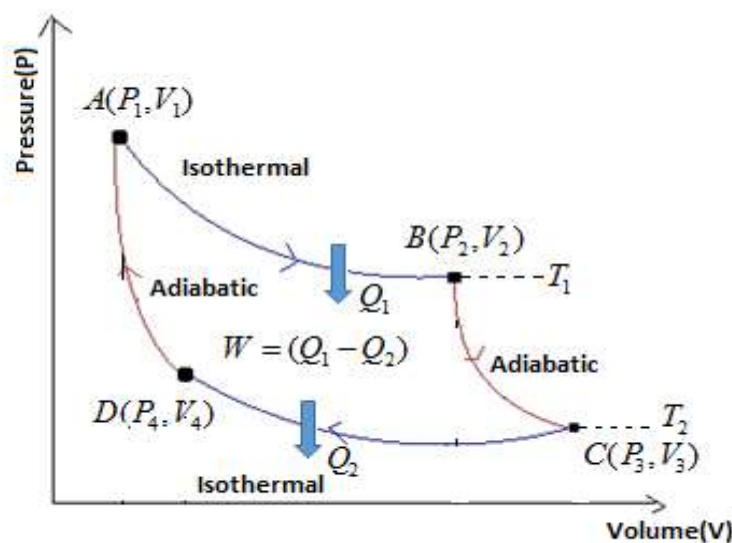

Figure 1
1. Place the machine containing the work material on the source with temperature T_1 , meaning that the temperature of the work material is also T_1 . Initially, the pressure and volume are P_1 and V_1 respectively. If we reduce the pressure, the volume will increase and as a result, the temperature will decrease and the pressure and volume will become P_2 and V_2 respectively, but since the machine has the ability to exchange heat from the source, it will acquire the amount of heat that it lost during expansion to remain at the same temperature as the source T_1 , and accordingly it will Work is done in this process known as the isothermal process. So the curve AB in Fig. 1 shows the isothermal process ($A \rightarrow B$ the gas is expanding isothermally)
Accordingly, work will be performed in this adiabatic process shown in the curve BC in Fig. 1 at the expense of the internal energy ($B \rightarrow C$ the gas is expanding adiabatically)
3. Place the machine containing the work material over the spine with a temperature of T_2 , increase the pressure, the volume will decrease from V_3 to V_4 and as a result, the temperature will increase, but what happens is that the temperature resulting from the process of increasing the pressure from P_3 to P_4 will be thrown into the sink. To keep the initial temperature, T_2 . This process is isothermal and as shown by curve CD in Fig. 1, ($C \rightarrow D$ gas compresses isothermally).